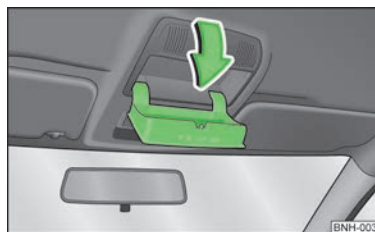

Fig. 52
- Press on the cover of the glasses storage box, the compartment folds down » Fig. 52.